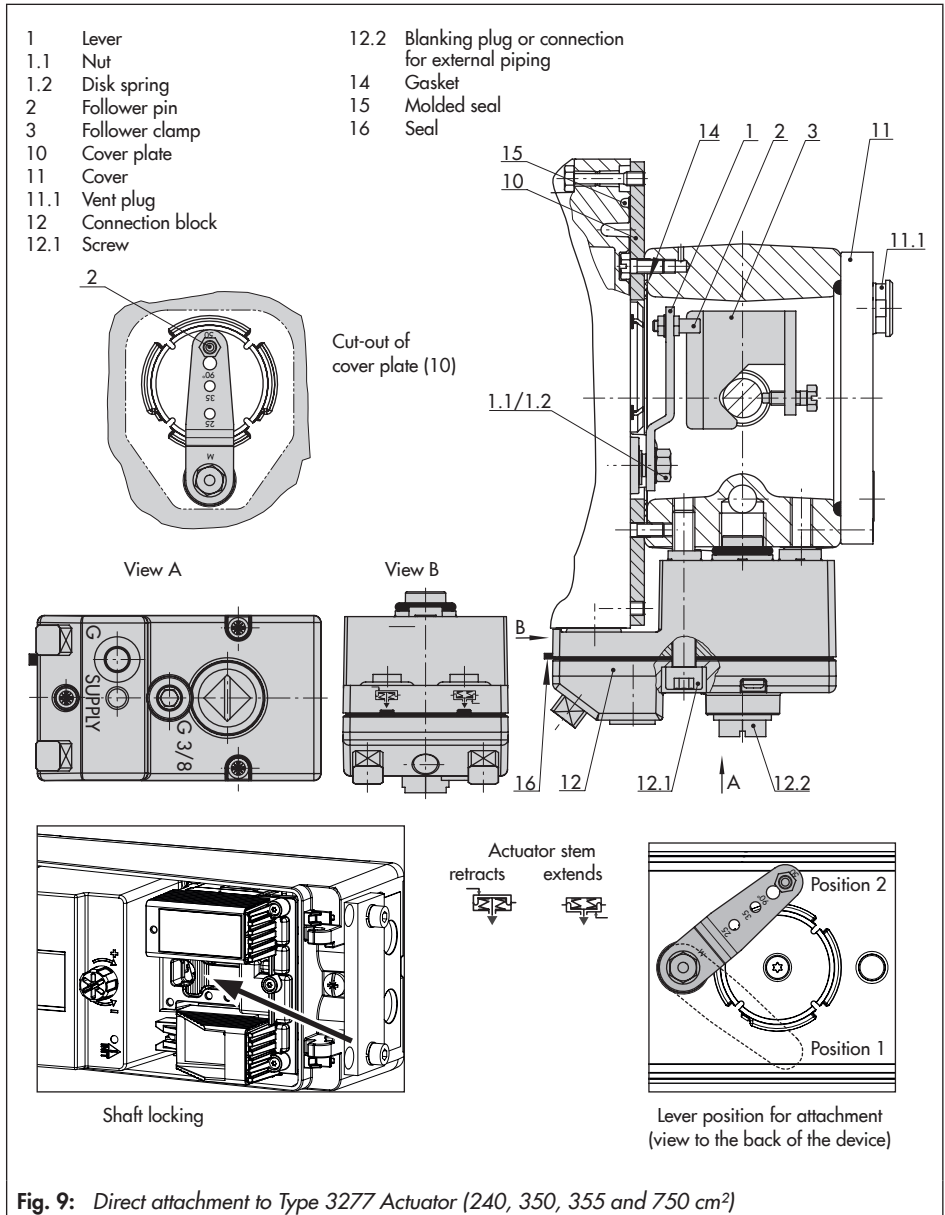

Fig. 9: Direct attachment to Type 3277 Actuator (240, 350, 355 and 750 cm2)
→ Actuators with 240 to 750 cm2 (Fig. 9)
1. Place follower clamp (3) on the actuator stem, align it and screw tight so that the mounting screw is located in the groove of the actuator stem.
2. Mount cover plate (10) with narrow side of the cut-out pointing towards the signal pressure connection. Make sure that the glued-on flat gasket (14) points towards the actuator yoke.
3. Check the pin position of the follower pin (2) on M lever (1). Refer to travel tables for type of attachment. If necessary, change the pin position (see section 5.2).
4. Insert molded seal (15) into the groove of the positioner housing.
5. Turn the lever counterclockwise until the spring force can be felt (position 1). Continue to turn the lever further to position 2 (see Fig. 9, bottom right).
6. Press the shaft lock (see Fig. 9, bottom left) to hold the lever in position 2.
Remove blanking plug (12.2, Fig. 9 on page 45) at the connection block and make a pneumatic connection to the actuator chamber on the vented side.